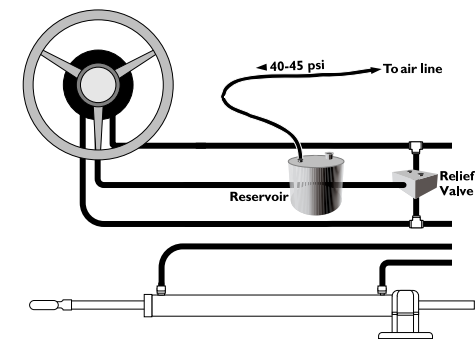
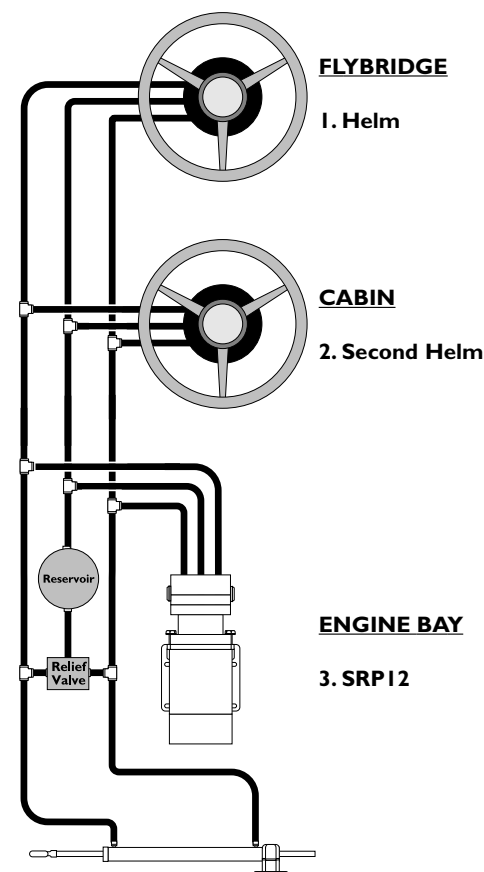

Fig 4.6 - Pressurising steering system
Fig 4.7 - Purging sequence
2. The reservoir should be fitted with an air valve of the type used on car tyres. Connect a foot pump or compressed air line to the valve and begin to pressurise the system slowly (Fig 4.6).
9. Repeat steps 6 & 7 with the Return (R) port.
11. Repeat the above step with each successively lower helm position (Fig 4.7). **This includes the SRP12 pump.**